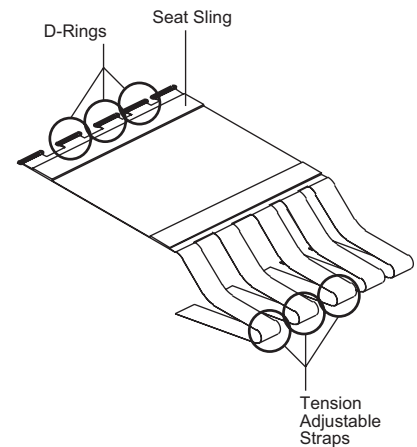

Figure 59
6. Install the new seat upholstery making sure the straps hang over the left side of the frame (the left side if you were sitting in the chair). See Figure 59.